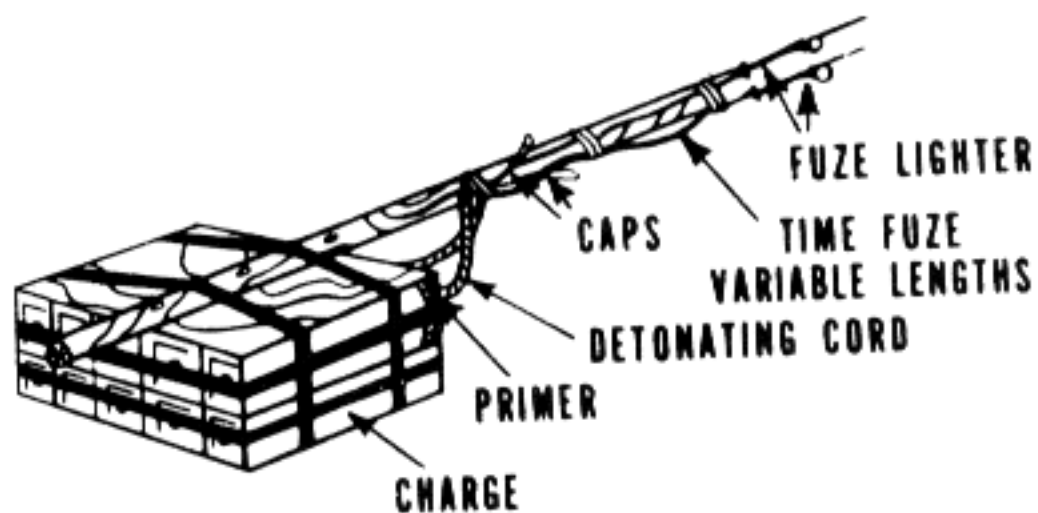

Figure 13
a. Type: Pole charge (Fig 13). Hand-carried charges are constructed, using TNT or Composition C-4, primed with nonelectric blasting caps, time fuze, and fuze igniter. Time fuzes should be approximately six inches long. When using pole charges, a length of detonating cord must be used to extend from the charge itself down to the handle of the pole. The charge must consist of at least ten lbs. of TNT or C-4.
(1) The M183 demolition charge assembly, or "satchel charge," is used primarily in breaching obstacles or demolition of large structures where large demolition charges are used. It is also effective against enemy armor.
(2) Components: The M183 demolition charge assembly consists of sixteen M112 (Comp. C-4) demolition blocks and four priming assemblies, for a total explosive weight of 20 pounds. The demolition blocks are packed in two bags, eight blocks per bag, and placed in a canvas carrying case. Each priming assembly consists of a five-foot length of detonating cord with an RDX booster crimped to each end, and a pair of M1 detonating cord clips for attaching the priming assembly to a detonating cord main line.